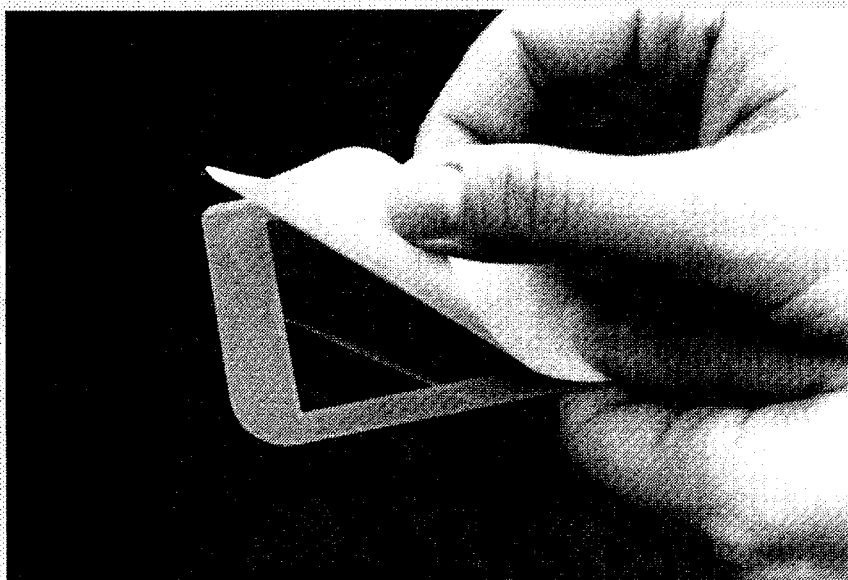

Fig. 14
14. Remove backing on a new screen cover and place the new cover on the front housing (Fig. 14).